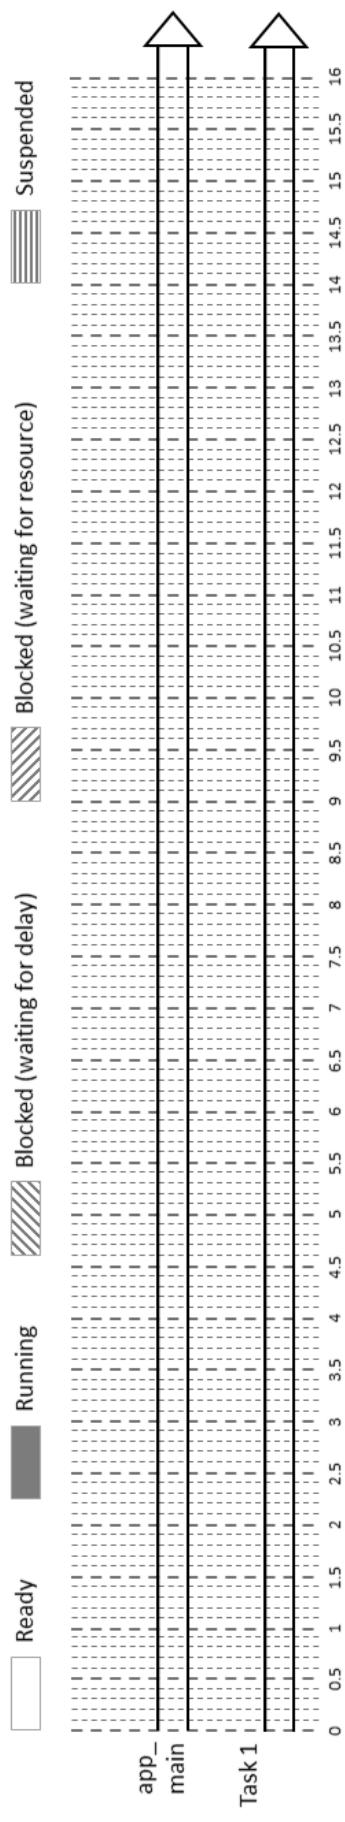

FIGURE 1.1 – *Scheduling of 2 tasks.*
9. Trace in the figure 1.1 the behavior of the *app_main()* and *Task 1* tasks until 160 ticks.